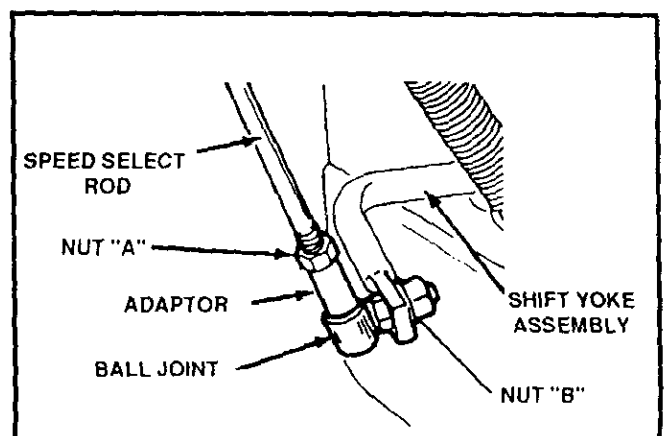

FIG. 12
- Loosen nut "A" on the speed select rod. Remove the ball joint by removing nut "B" from the shift yoke assembly. Lengthen or shorten the rod by turning the adaptor to obtain the correct friction wheel position (See FIG. 12).
- Remove ball joint from shift yoke assembly (See FIG. 12 in this section).